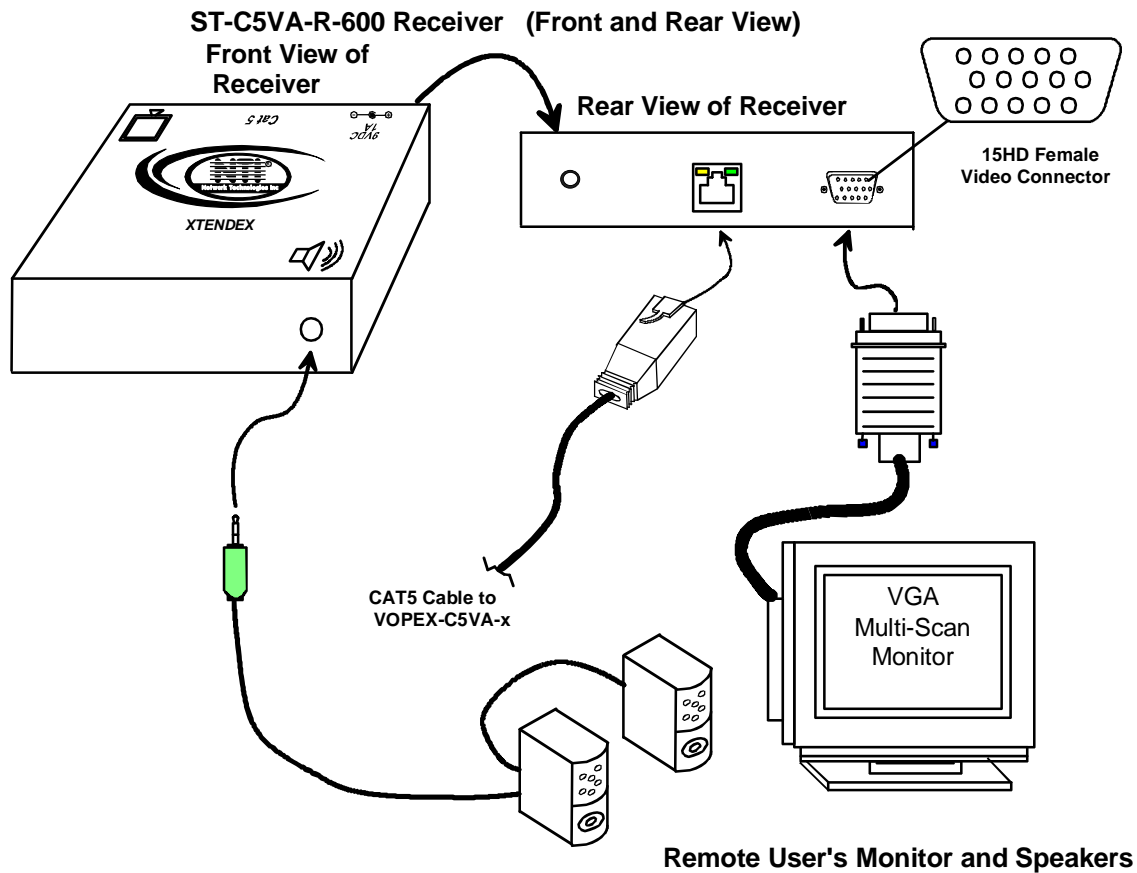

Figure 3- Connect the Extended Components to the ST-C5VA-R-600 Receiver
3. Connect the remote user's speakers to the 3.5mm female stereo connector on the Receiver (see Figure 3).
4. Make sure the CAT5 cable has been installed in accordance with the "Preparation for Installation" instructions on page 5. Connect the CAT5 cable to the "Cat 5" port on the Receiver. (See Figure 3) When properly inserted the CAT5 cable end should snap into place.